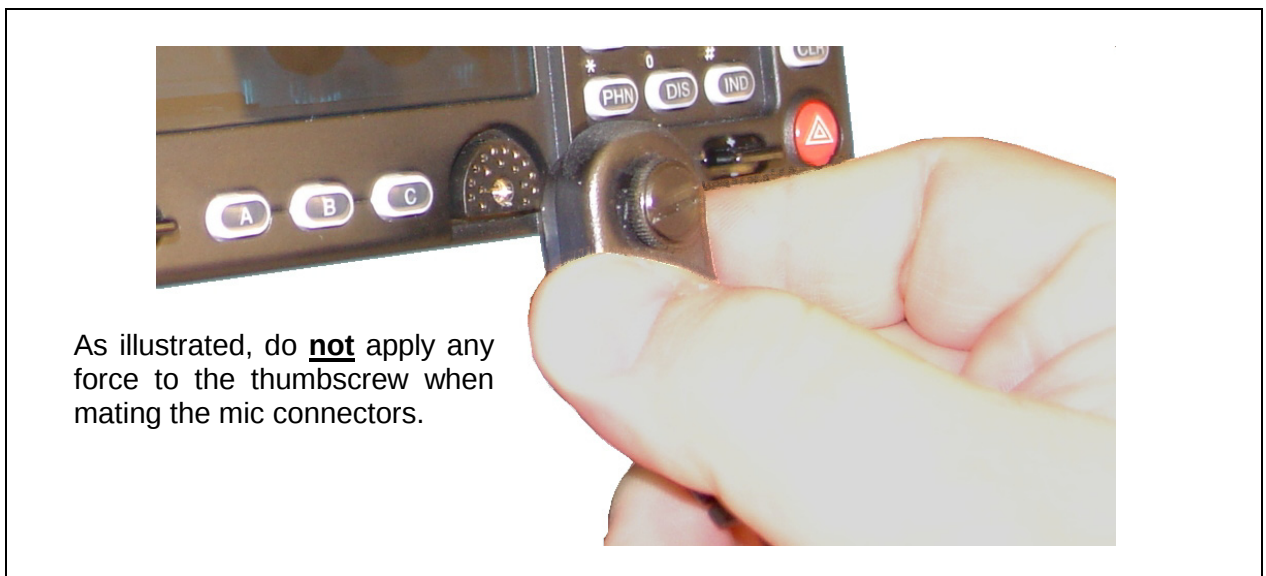

Figure 12-1: Attaching the Microphone to the CH-721 Control Head
3. As illustrated in Figure 12-1, grasp the mic's connector with a thumb and index finger on the sides of the connector just adjacent to the thumbscrew.